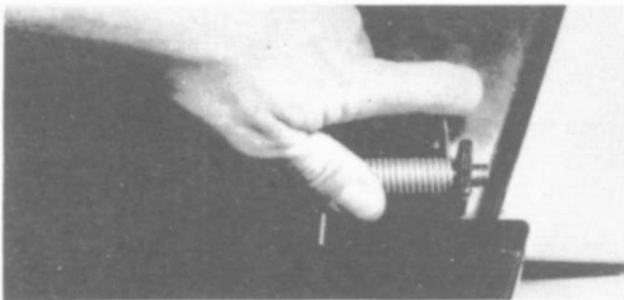

Fig.3
2. Now twist the spring as shown and fed the end of the pivot rod into the forward pivot bracket; See fig.3